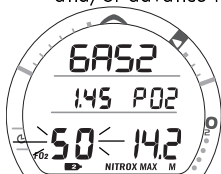

Fig. 23 - Set FO2 GAS 2
- The scroll will start at the FO2 GAS 1 Set Point and stop when the button is released, or momentarily at 50% (Fig. 23), then 80% (even if the button is held depressed).